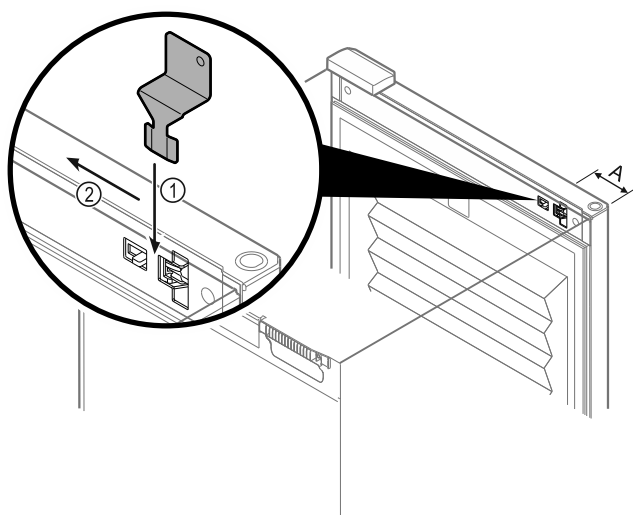

Fig. 106
- Position the emergency unlocking key in the location shown Fig. 106 (A) ≈ 100 mm.
- Insert the emergency unlocking key from above between the door and the appliance body as far as it will go Fig. 106 (1).
- Drag the emergency unlocking key toward the hinge side Fig. 106 (2).